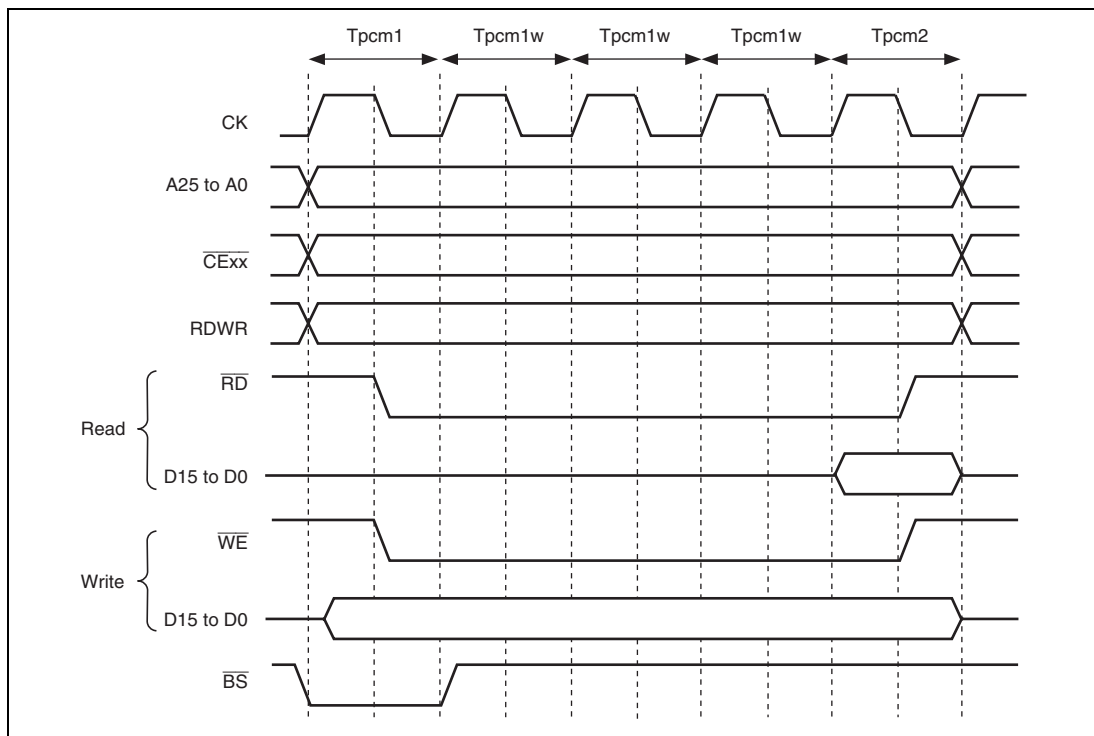
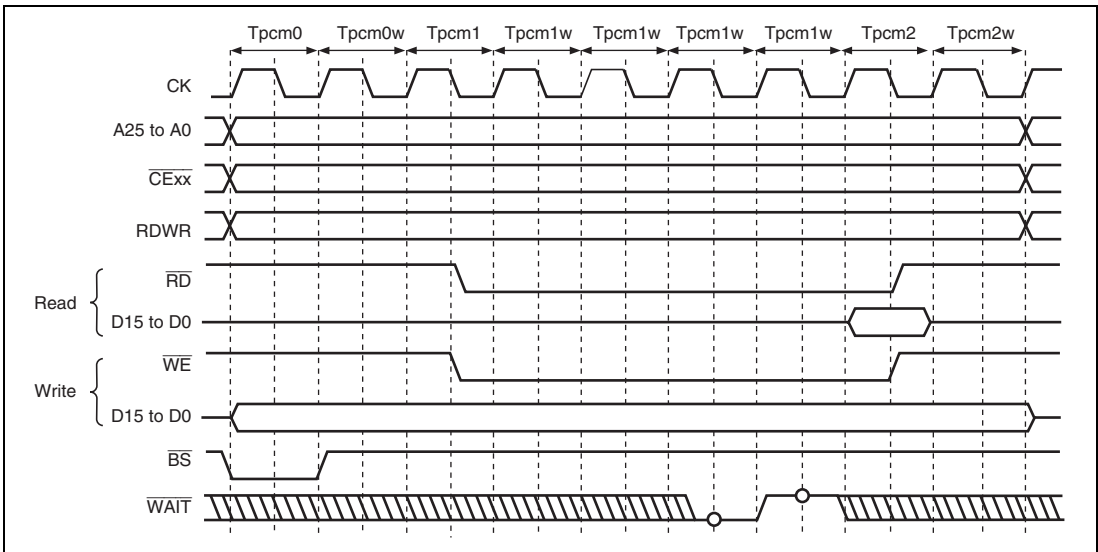

Figure 9.38 Basic Access Timing for PCMCIA Memory Card Interface
Figure 9.39 Wait Timing for PCMCIA Memory Card Interface
Basic Timing for Memory Card Interface: Figure 9.38 shows the basic timing of the PCMCIA IC memory card interface. If areas 5 and 6 are specified as the PCMCIA interface, accessing the common memory areas in areas 5 and 6 automatically accesses the bus with the IC memory card interface. If the external bus frequency (CK) increases, the setup times and hold times for the address pins (A25 to A0), card enable signals ($\overline{\text{CE1A}}$, $\overline{\text{CE1B}}$, $\overline{\text{CE2A}}$, $\overline{\text{CE2B}}$), and write data (D15 to D0) to the $\overline{\text{RD}}$ and $\overline{\text{WE}}$ signals become insufficient. To prevent this error, this LSI enables the setup times and hold times for areas 5 and 6 to be specified independently, using CS5WCR and CS6WCR. In the PCMCIA interface, as in the normal space interface, a software wait or hardware wait using the $\overline{\text{WAIT}}$ pin can be inserted. Figure 9.39 shows the PCMCIA memory bus wait timing.